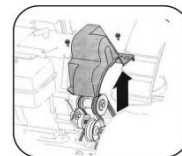

Figure 14
1. Remove the belt cover on the front of the engine by removing the two self-tapping screws. See figure 14.